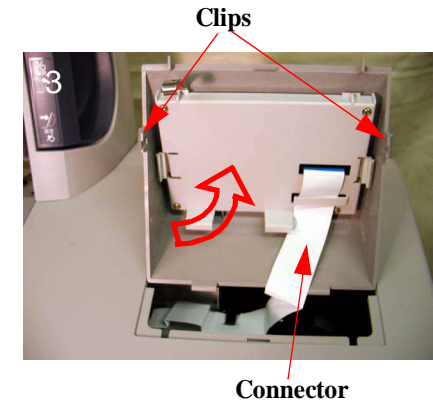

Figure 4-5.
1. Push the clips (Refer to Figure 4-5.) on both sides of the panel unit and pull slightly away from the R Side Cover.
① Push it toward you.